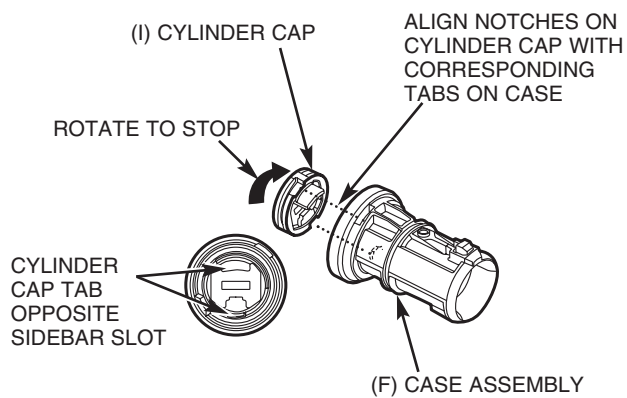

FIGURE 5
8. Look into the back of the lock case sub-assembly. Insert the cylinder cap into the front of the case sub-assembly aligning the notches on the cap to the two (2) tabs in the lock case and rotate to stop (refer to Figure 5).
9. From the back of the lock case sub-assembly align the lock cylinder sidebar with the side bar slot in the case and insert the lock cylinder. It is normal to experience some resisting force during the insertion process; if resisting force is experienced, depress the tumblers so the lock cylinder can slide past the case. Rotate the cylinder cap until it hits the rotational stop. The tab on the back of the cylinder cap should be 180 degrees opposite of the sidebar slot in the case (refer to Figure 5).
12. Use the key to check the operation of the lock. Rotate the lock at least ten (10) times so that the grease applied to the tumbler wards is distributed along the inner surface of the lock case and exterior surface of the lock cylinder.